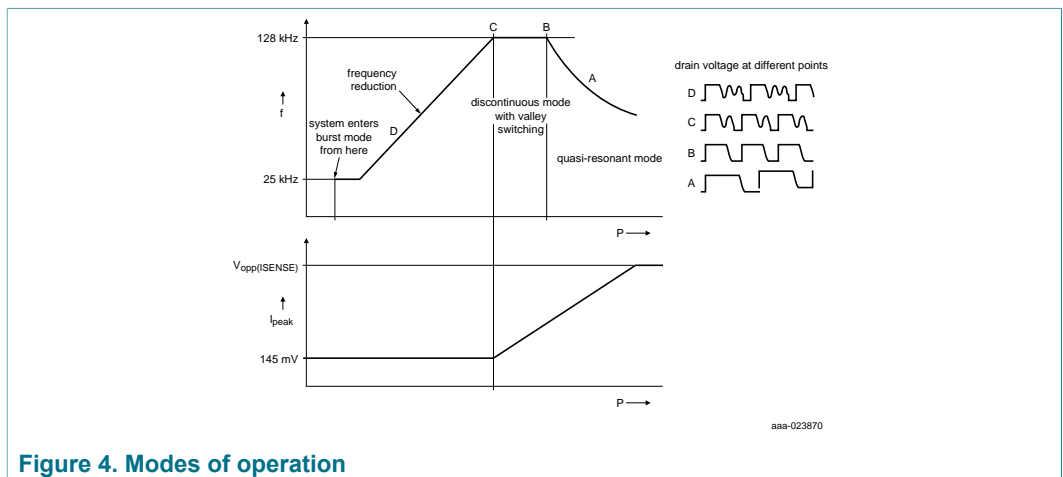

Figure 4. Modes of operation
The TEA19361T operates primarily in fixed frequency DCM mode. At low powers, it enters burst mode. At high powers, it can operate in Quasi-Resonance (QR) mode (see Figure 4). The auxiliary winding of the flyback transformer provides demagnetization information.